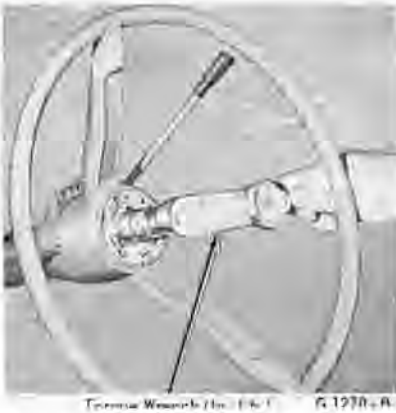

FIG. 4—Checking Pre-Load
7. Measure the worm bearing preload by attaching an in.-lb. torque wrench to the steering wheel nut (Fig. 4). With the steering wheel off center, read the pull required to rotate the input shaft approximately $1\frac{1}{2}$ turns either side of center. If the torque or preload is not within specification
11. Turn the sector adjusting screw clockwise until the specified pull (Part 3-6) is necessary to rotate the worm past its center high spot (Fig. 4). No perceptible backlash is permissible at 30° on either side of center.